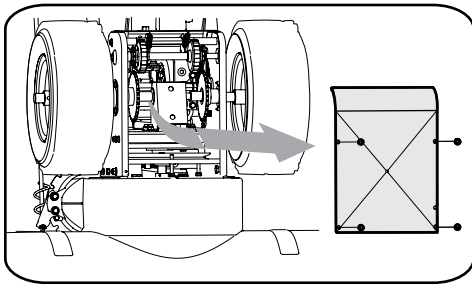

Figure 6-6
2. Remove the frame cover from the underside of the snow thrower by removing four self-tapping screws which secure it. Refer to Figure 6-6.
1. With the snow thrower tipped forward (be certain to drain gasoline or place plastic film under the gas cap if the snow thrower has already been operated), remove the frame cover underneath the snow thrower by removing the self-tapping screws. See Figure 6-6.